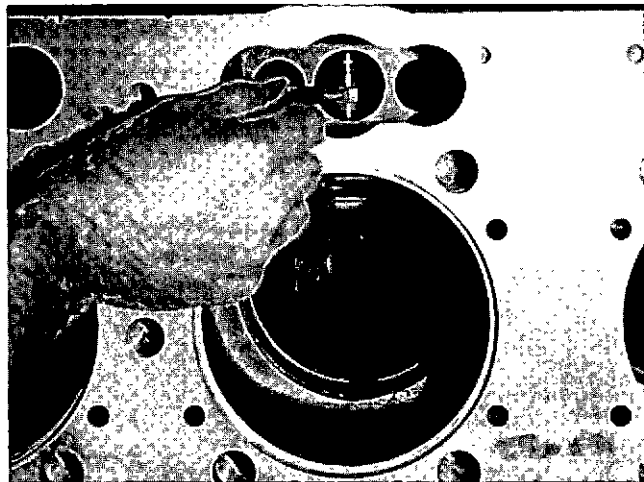

Fig. 1-1-13, V40127. Checking tappet bore inside diameter
1. Measure tappet bores with a small bore gauge, Fig. 1-1-13. See Table 1-1-9.